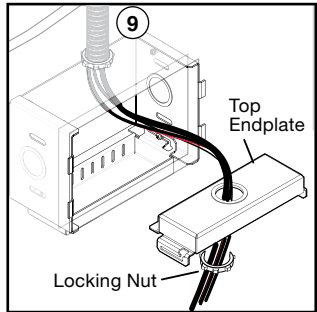

Figure 2.
9. Pull back the flexible conduit and cables that were cleared out of the way in step 7 and loosely attach it to the knock-out hole in one of the end plates (see figure 2) using the locking nut.